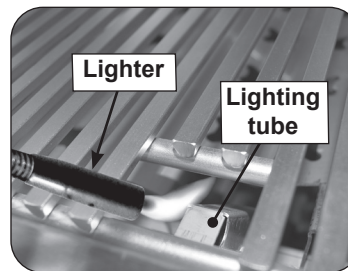

Fig. 37-2 Manual lighting via lighting tube
**CAUTION:** Always wait five (5) minutes for gas to clear after any unsuccessful lighting attempt.
2. Insert either a burning long-barrel butane lighter or a burning long-stem match through the cooking grid opening to the top of the lighting tube (see Fig. 37-2). For backburners or infrared burners, hold the flame against the surface of the backburner/infrared burner.